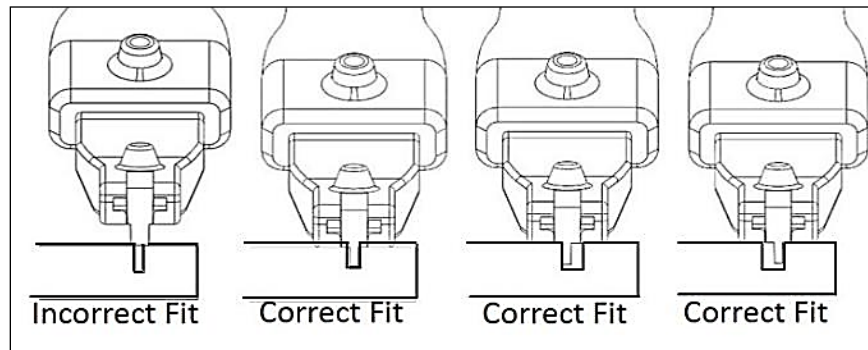

Figure 5. Determining Proper TGB Fit
3.1.5. Ensure the selected TGB width is narrower than the gap from which filler is being removed. See **Figure 5**.